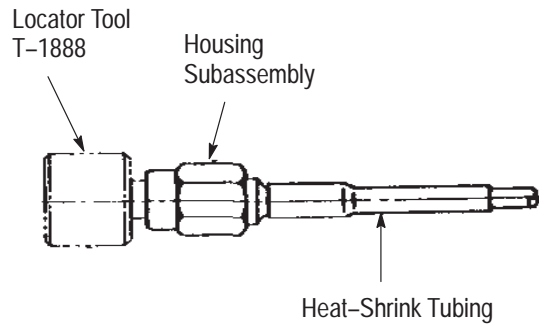

Figure 6
**2.4. Shrink Heat-Shrink Tubing to the Cable** (Figure 6)
1. Position the heat-shrink tubing over the ferrule as shown in Figure 6.